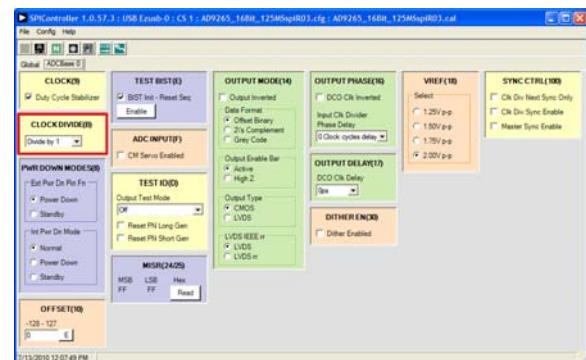

Figure 10. SPIController, CLOCK DIVIDE(B) Box
3. In the **ADCBase 0** tab of the **SPIController** window, find the **CLOCK DIVIDE(B)** box (see Figure 10). If using the clock divider, use the drop-down box to select the correct clock divide ratio, if necessary. See the appropriate part data sheet; the AN-878 Application Note, High Speed ADC SPI Control Software; and the AN-877 Application Note, Interfacing to High Speed ADCs via SPI, for additional information.
4. Note that other settings can be changed on the ADCBase 0 tab (see Figure 10). See the appropriate part data sheet; the AN-878 Application Note, High Speed ADC SPI Control Software; and the AN-877 Application Note, Interfacing to High Speed ADCs via SPI, for additional information on the available settings.